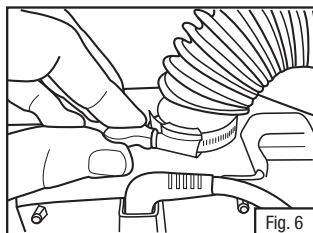

Fig. 6
5. Check that the end of the breathing tube is visible between the Turbo PAPR unit and the hose clamp (Fig. 6).